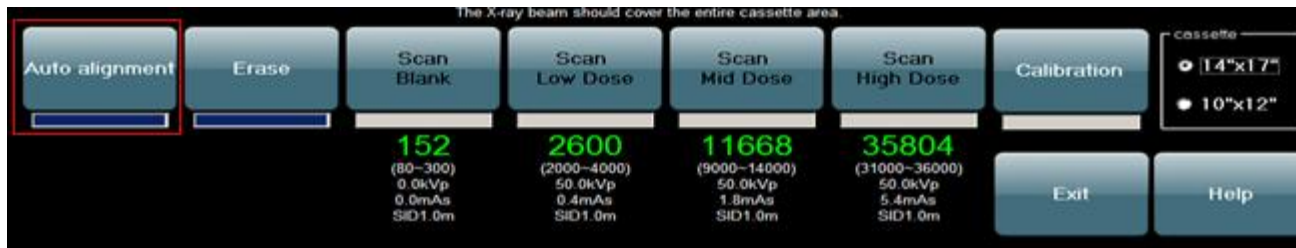

Figure 8
- › Perform Auto Alignment function prior to starting the calibration, this finds the optimal Laser beam position. *Figure 8*